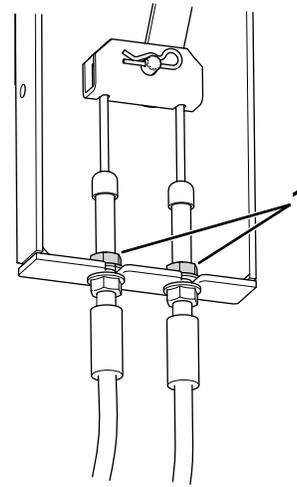

Figure 77
3. Locate the brake-cable mount (Figure 77) under the left side of the machine near the left wheel.